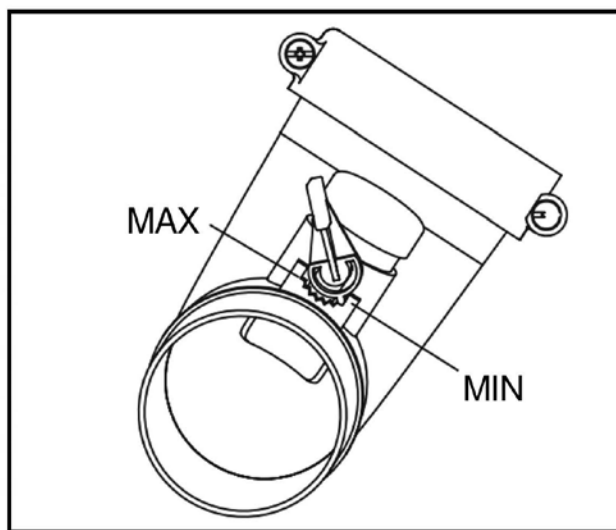

FIGURE 5
3. **Dust Flow-** To adjust dust flow move lever to the left. Move the lever to the right to reduce dust flow. See Figure 5.